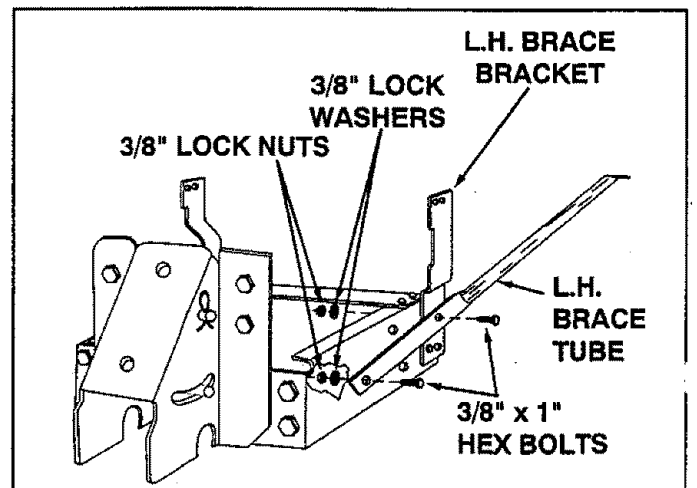
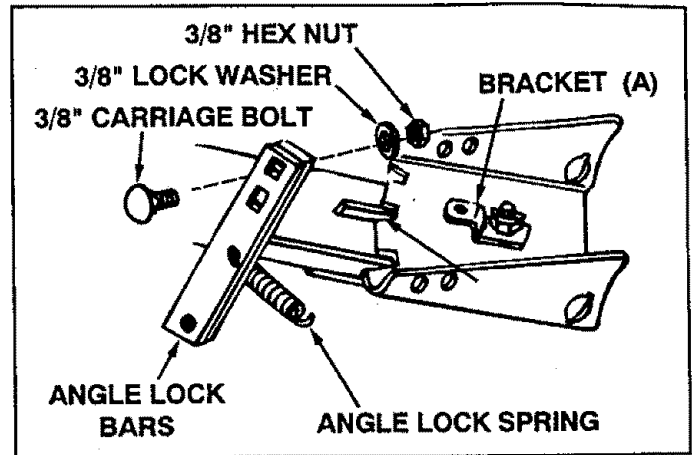

FIGURE 18
FIGURE 21
- Attach one brace tube to each side of blade frame assembly using two 3/8" x 1" hex bolts, lock washers and lock nuts. Each brace tube should be slightly angled outward. See figure 18.
- Assemble the two angle lock bars together as shown in figure 21, using one 3/8" x 1-1/4" carriage bolt, one 3/8" lock washer and one 3/8" hex nut. See figure 18. **Do not tighten at this time.**
- Assemble angle lock spring through angle lock bars positioning end hook as shown. See figures 21 and 22.
- Assemble hook of angle lock spring into hole of bracket (A). Pull lock bars up to extend spring just enough to allow assembly of angle lock bars down through slot in pivot bracket and channel. See figures 21 and 22.